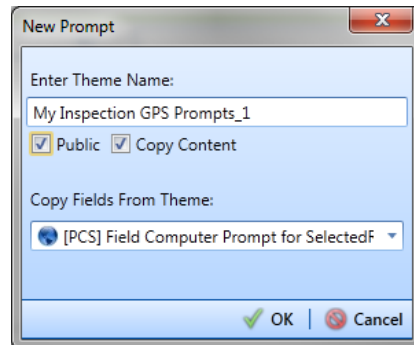

Figure 7-32. New Prompt
- 5 Click the  **Add** button to open the *New Prompt* dialog box (Figure 7-32).